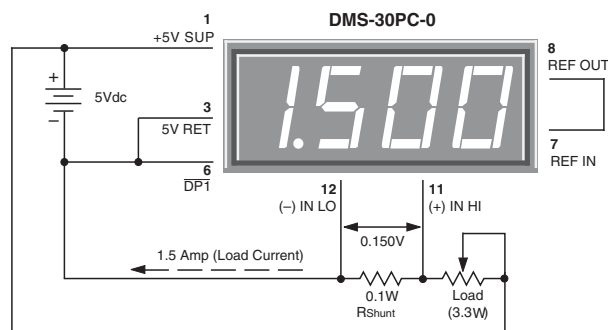

Figure 9. Basic DC Ammeter Circuit
- 7. Digital Ammeter:** Digital ammeters are finding ever-increasing usage because analog-style ammeters (moving-vane types) now cost roughly the same as their digital counterparts. Additionally, analog ammeters are not nearly as rugged as modern digital panel voltmeters. Figure 9 illustrates a typical ammeter application. The circuit uses a ± 200 mV input meter — the preferred range for most ammeters — to measure the voltage developed across a 0.1Ω current shunt. The circuit shown represents a basic ammeter connection diagram. A detailed application note describing digital dc ammeters is included in DATEL's new Digital Panel Meter Databook.